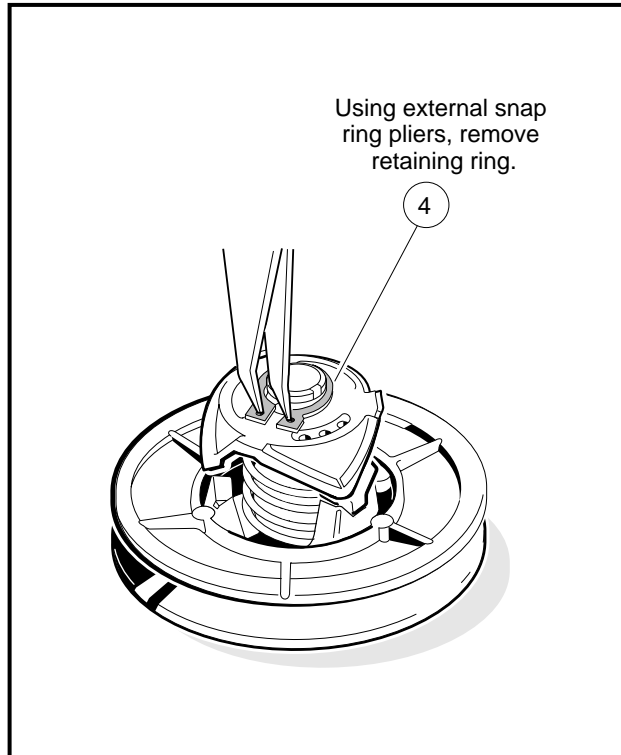

Figure 17-17 Remove Retaining Ring
1. Using external snap ring pliers, remove the retaining ring (4) (**Figure 17-17, Page 17-14**). **See following WARNING.**